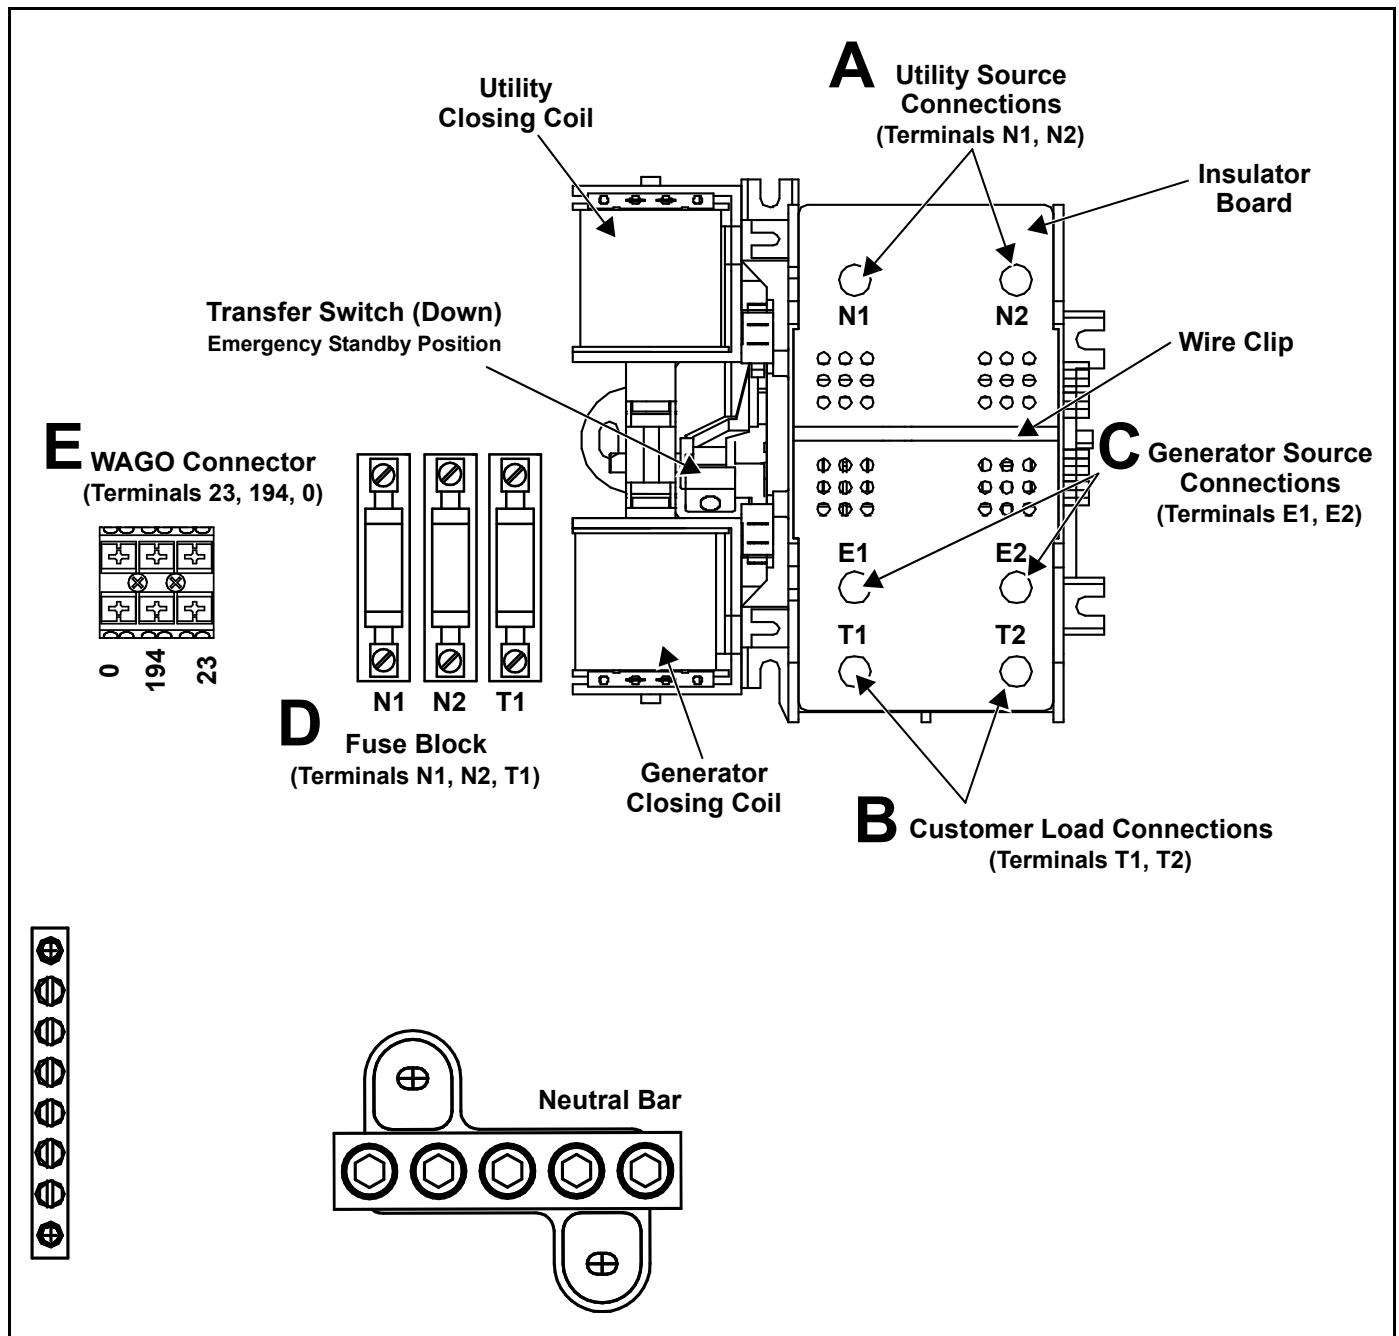

Figure 4-4. Automatic Transfer Switch (RTSI)
1. Remove wire clip to release insulator board over customer load and utility source lugs. See Figure 4-4.
2. Back out terminal screws from utility source lugs (N1, N2). See A of Figure 4-4.
1. Back out terminal screws from customer load lugs (T1, T2). See B of Figure 4-4.
1. Back out terminal screws from generator source lugs (E1, E2). See C of Figure 4-4.
2. Install wires to appropriate terminals using either Phillips screws or spade contacts. See D of Figure 4-4.
2. Route wires to WAGO connector. See E of Figure 4-4.